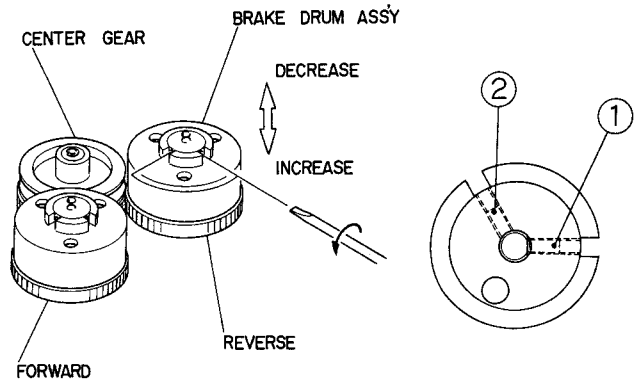

Fig. 6.1 Torque Adjustment
- (1) Remove cabinet assembly, flywheel holder, capstan belt and two sets of flywheel assembly (including washer, flange thrust stud and thrust spring) in that order (When mounting the flywheel holder, use care to attach it in the correct direction to avoid the change of clearance between the flywheel holder and flywheel assembly).
- (2) Turn on the power.
- (3) Load the torque gauge (DA09013A) in the cassette well assembly.
- (4) By touching the button of F.F. or rewind, measure torque for each mode. Adjustment should be so made that the torque may become in a range from 50 to 55 g-cm. Adjustment should be made on brake drum assembly of forward side and reverse side, respectively, to regulate the torque of F.F. and rewind modes. Refer to Figs. 6.1 and 6.2.